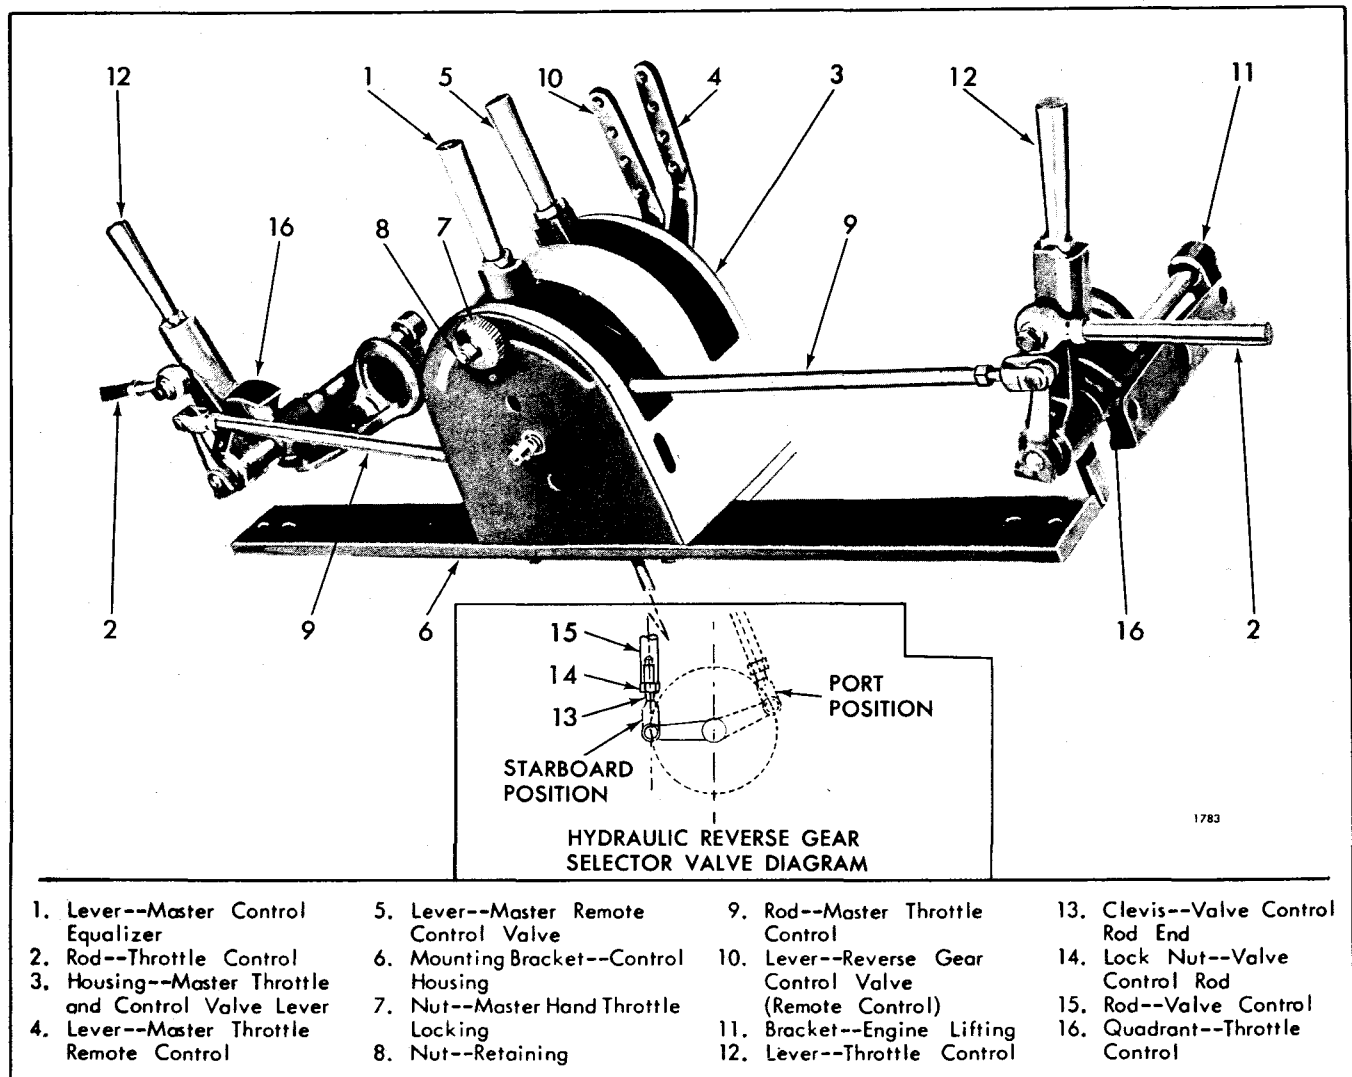
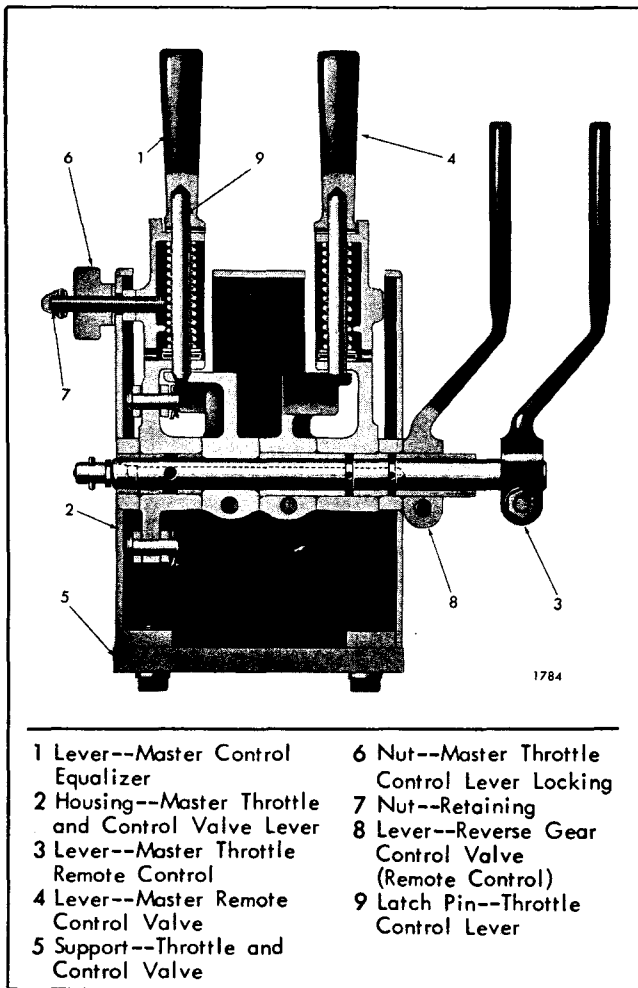

Fig. 1 - Arrangement of Throttle Levers on a Tandem Twin Marine Unit
Fig. 2 - Master Throttle Assembly on a Tandem Twin Unit
The tandem twin unit throttle and reverse gear control arrangement is shown in Figs. 1 and 3 and the master throttle control and individual throttle lever assemblies are illustrated in Figs. 2 and 4.
and lower arms of the throttle lever shank are in a vertical straight line, as observed through the two holes on the side of the lever housing (2). Secure the throttle lever in this position with the knurled lock nut (6), Fig. 2.